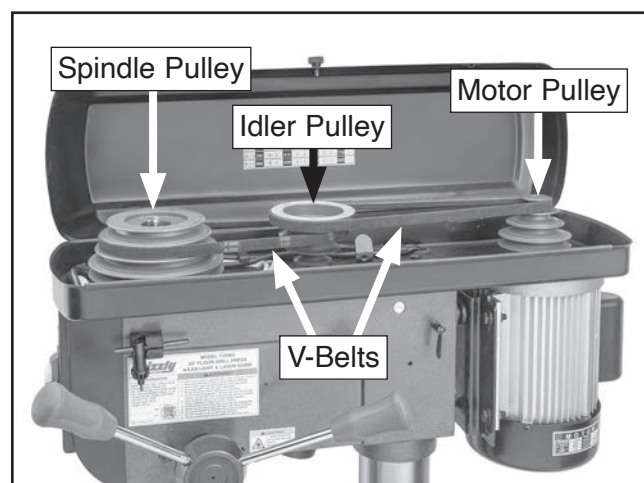

Figure 34. V-belt components.
6. Move V-belts onto desired sheaves on motor, idler, and spindle pulleys (see **Figure 34**).